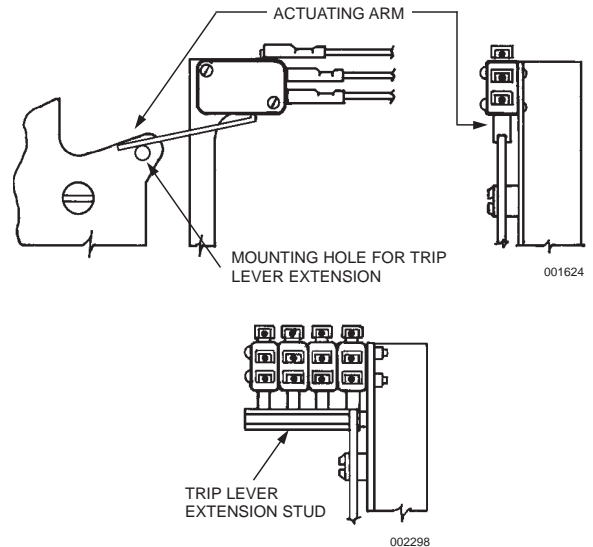

FIGURE 44
5. If more than one switch is being installed, it is necessary to attach the trip lever extension stud to the trip lever. See Figure 44. Using the provided fasteners, securely install the extension stud.
6. Raise switch actuating arm squarely over the cam surface of the trip lever. This will allow the trip lever, when actuated, to force the actuating arm "UP," thus reversing the normal condition of the switch. See Figure 44.